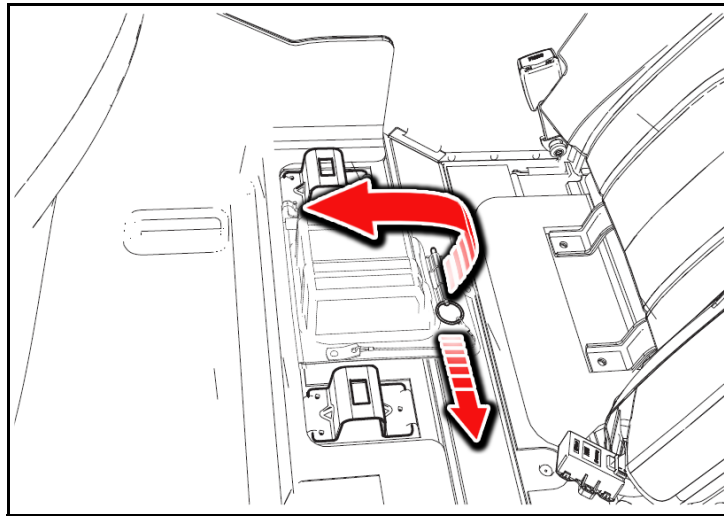

Figure 2C
2.5. Release latch pin from Manual Service Disconnect (MSD) latch (Figure 2C).
2.6. Lift cover for access to MSD plug (Figure 2C).